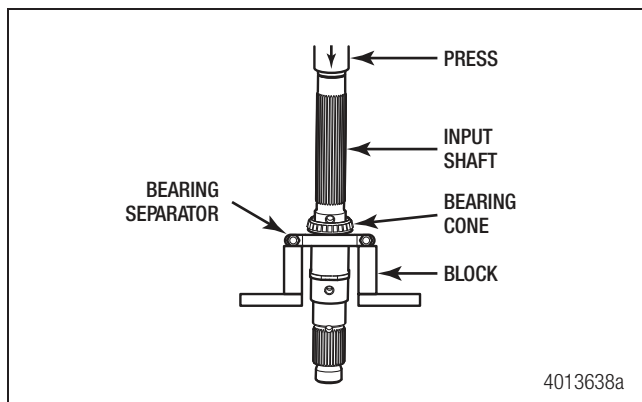

Figure 6.1
2. Place the input shaft in a press and support it with blocks as shown. Press the input shaft down and out of the bearing cone. Figure 6.1.